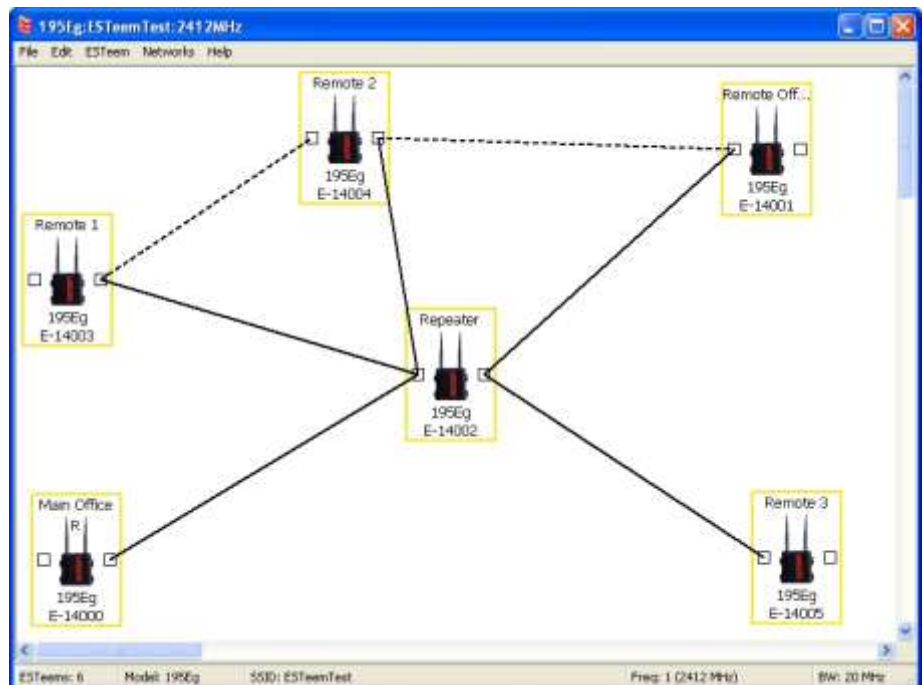

**Figure 16: Backup Link Configuration**
3. To create the backup link between Remote 1 and Remote 2 and the other backup link from Remote 2 to the Remote Office, draw a wireless connection as you would on the primary link. Double-click on the line created. The Link Editor box will be displayed (Figure 16). Any Path Length greater than 1 will display as a dashed line